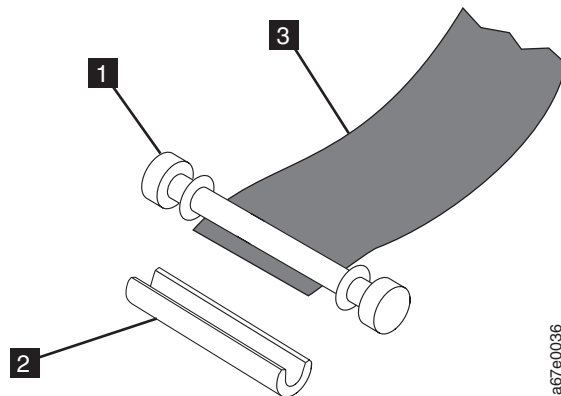

Figure 5-14. Removing the C-clip from the leader pin
5. On the leader pin (**1** in Figure 5-14), locate the open side of the C-clip **2**. The C-clip is a small black part that secures the tape **3** to the pin.